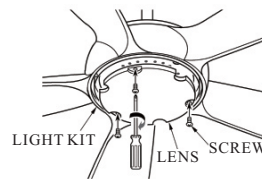

FIG.15
5. Attach the lens onto LED light kit. (see Fig. 15)